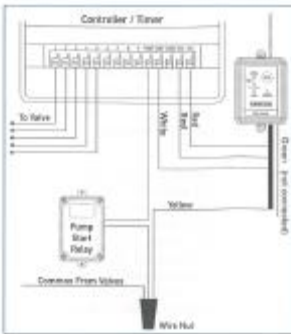

Figure 5: Wiring sprinkler timer with booster pump without sensor terminals
3. Disconnect the common valve wire(s) from the timer and the common wire lead of the relay that starts the pump from the common terminal of the timer. Attach them to the yellow (normal closed) wire from the receiver, using a wire nut. (See Figure 5).
5. Connect the (2) red "24V" wires to the 24V terminals of the timer.